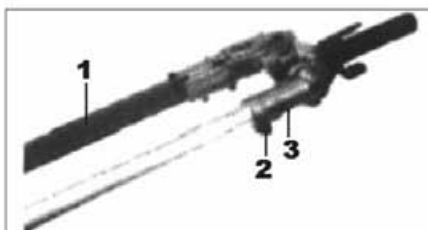

Fig.HT3
4.1- Installing the hedge trimmer cutter (Fig.HT3 & 4)